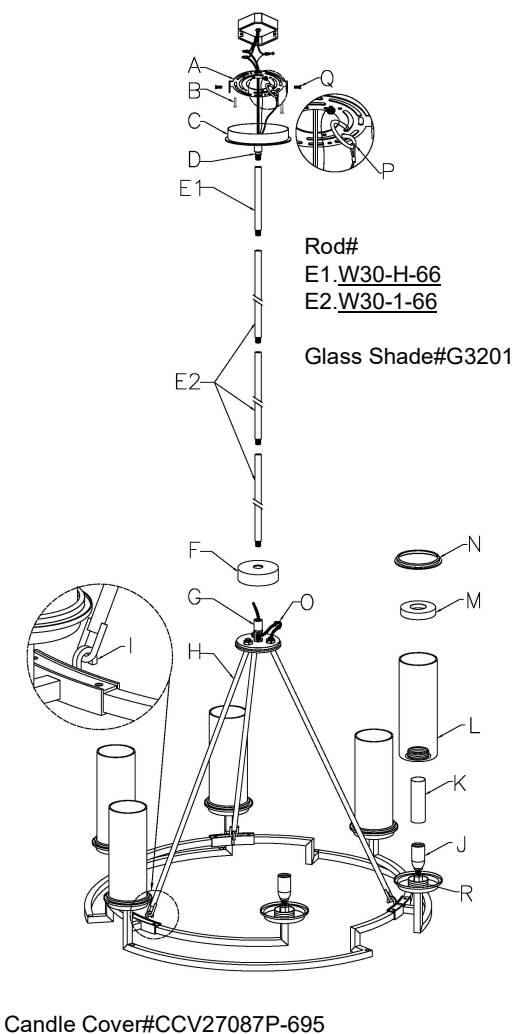

Fig. 2
CONNECTING THE WIRES (Fig. 2)
8. Connect the electrical wires as shown in fig.2, making sure that all wire connectors are secured. If junction box has a ground wire (green or bare copper), connect the fixture's ground wire to it. Otherwise, connect the fixture's ground wire directly to the mounting plate (A) using the green screw provided.